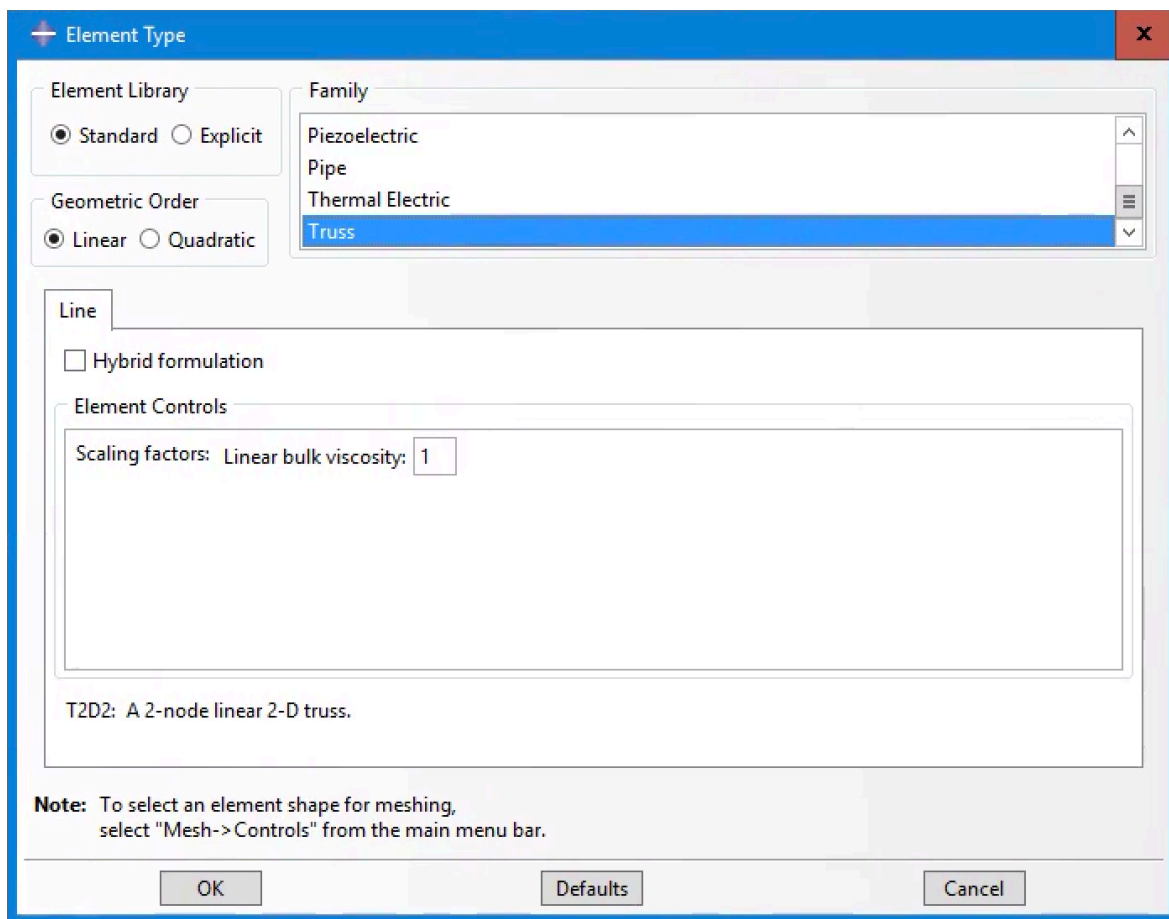

Figure 29 Assigning element type
- It is a good practice to assign element types at the beginning. Click on the **Assign Element Type** button, and select the whole part. In the appeared dialog box, choose **Truss** element (Figure 29). As you can see, this element recognized as **T2D2** element in Abaqus (You can find more information about Abaqus pre-defined elements in the following link: <http://abaqus.software.polimi.it/v6.14/books/usb/pt06.html>)